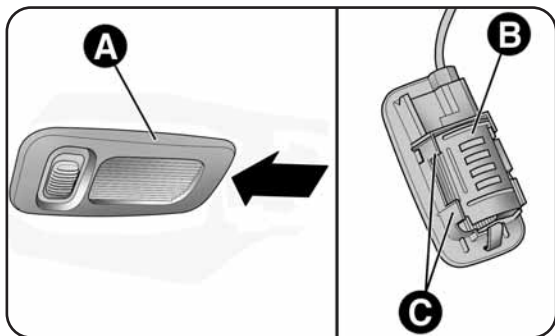

fig. 36
- lower the sun visor and remove courtesy light A-fig. 36 by applying leverage at the points shown by the arrows;